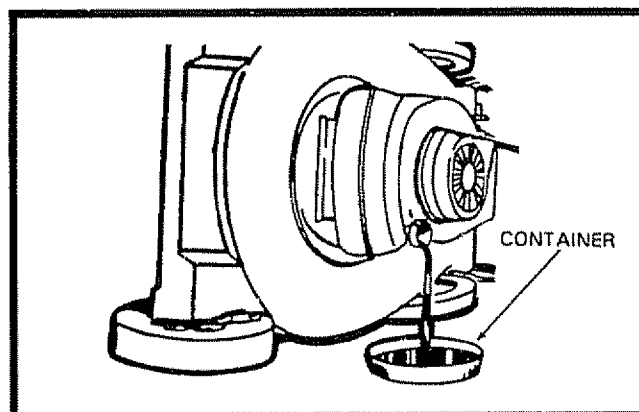

FIG. 7
- Tip lawn mower on its side as shown in Fig. 7 and drain oil into suitable container. Rock lawn mower back and forth to remove any oil trapped inside of engine.